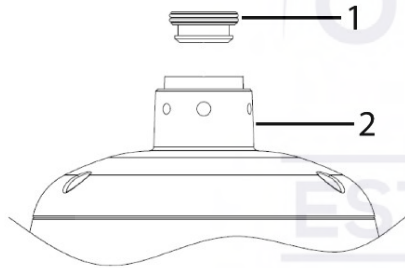

Figure 6
1. Securely place the rubber cable seal (1) (Figure 6) into the NPT pendant cap (2) (Figure 6).